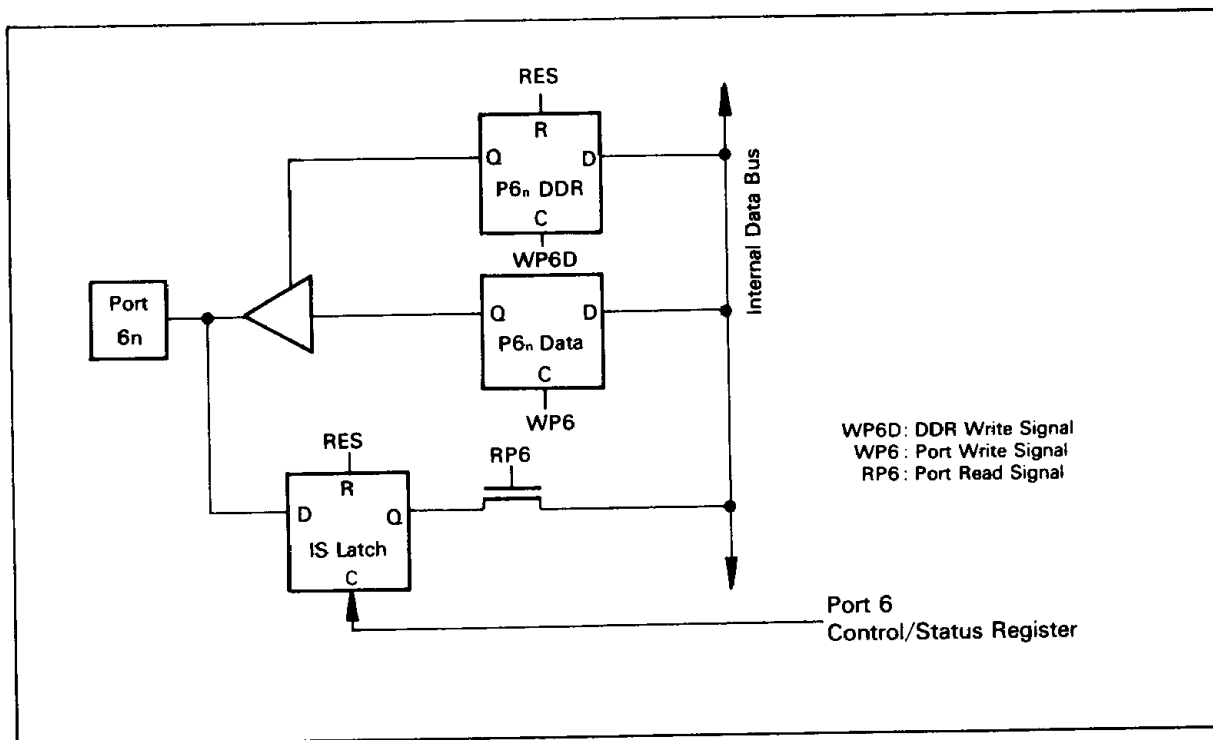
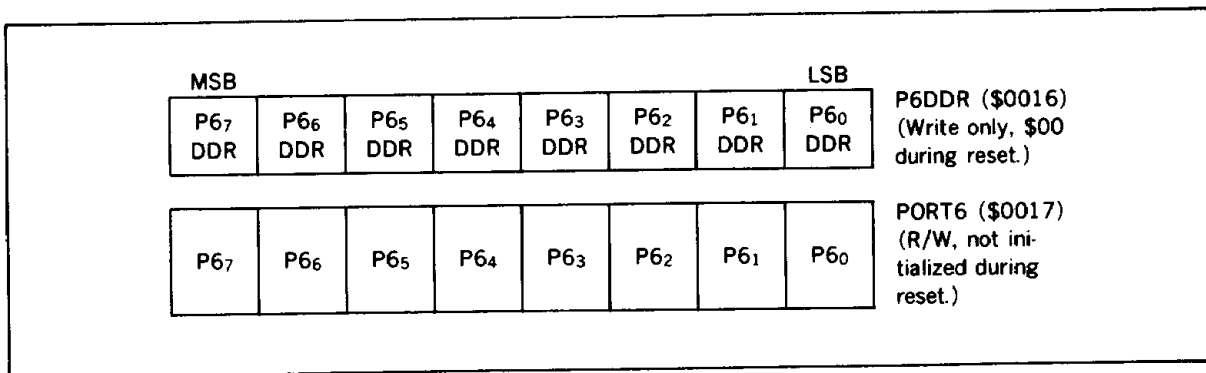

Figure 20. Port 6 Block Diagram
Figure 21. Port 6 Register and Data Direction Register
**Port 6** : Port 6 is an 8-bit I/O port (figure 20). Each bit of the DDR (\$0016) defines the data direction of the corresponding bit of port 6 (figure 21). Port 5 can drive one TTL load and 30 pF capacitance. In addition, it can drive the base of Darlington transistors directly.